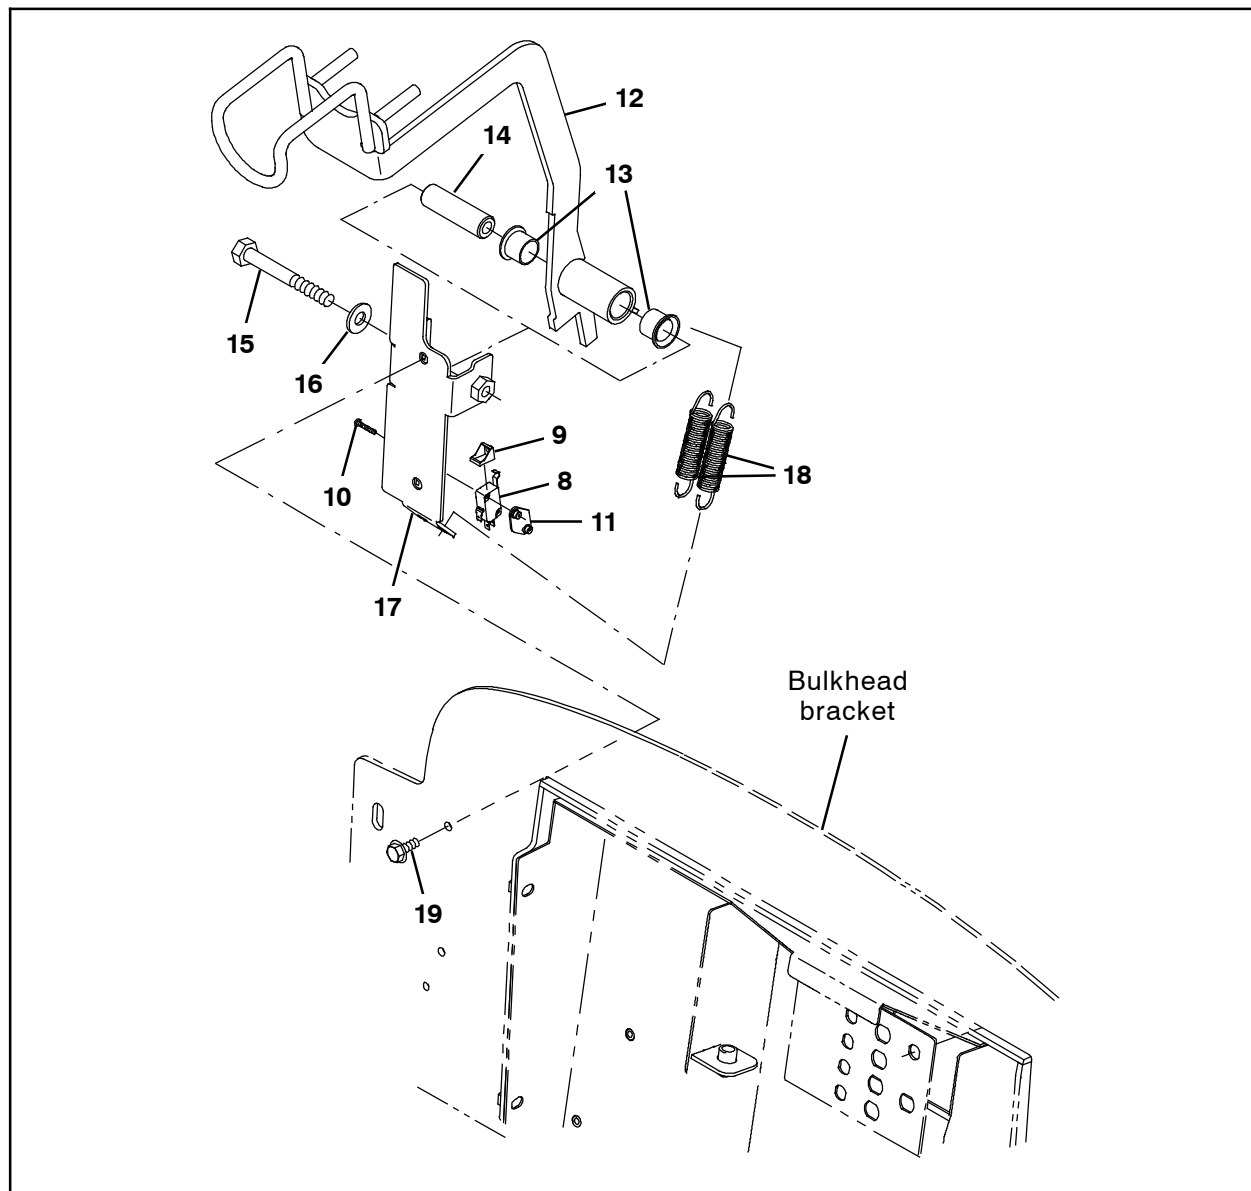

FIG. 8
16. Use two SEMS M6 hex screws (19) to install the wand mounting plate (17)/wand pivot handle (12) assembly onto the bulkhead bracket. (Fig. 8)
17. Connect the main wire harness to the micro switch (8). (Fig. 8/Fig. 13)
18. Use the wire ties (50) to secure the wand electric harness (49) to the filter box cover.